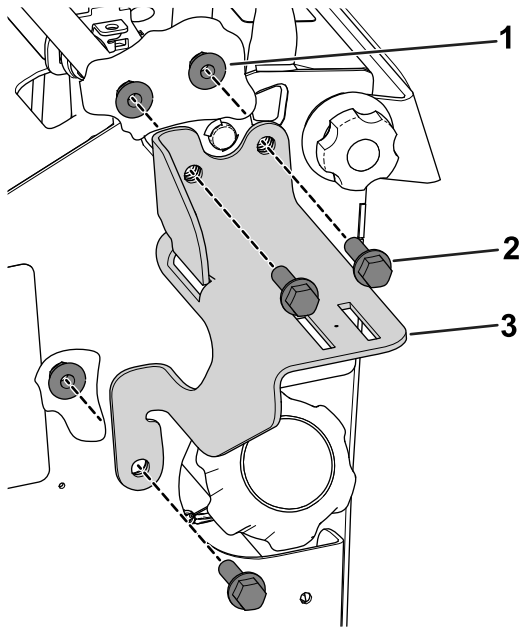

Figure 2
3. Use 3 hex-head bolts (3/8 inch), and 3 flange nuts (3/8 inch) to secure the upper mount bracket to the machine (Figure 2).